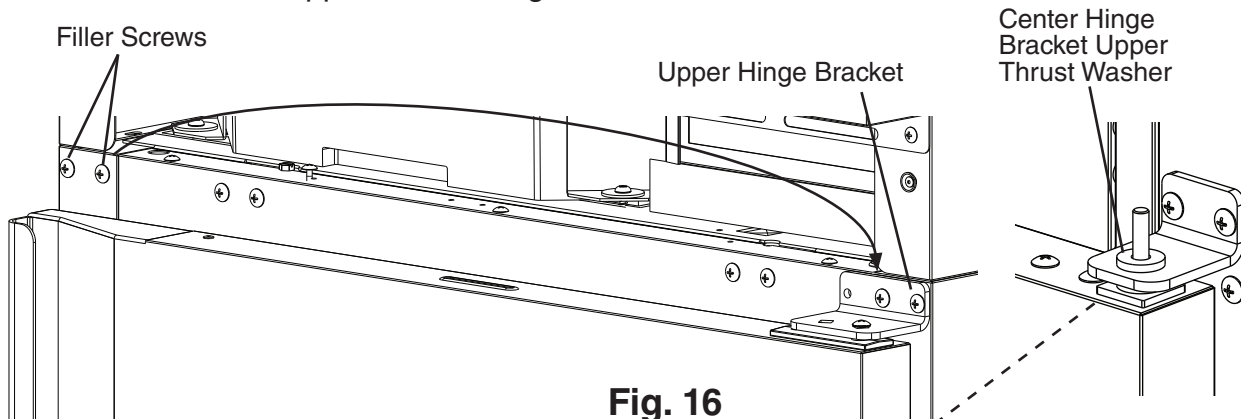

Fig. 16
- 3) While maintaining a hold on the upper door, remove the upper hinge bracket then lift the door off the center hinge bracket. See Fig. 16. Retain the upper center hinge bracket thrust-washer for opposite side hinge bracket installation.